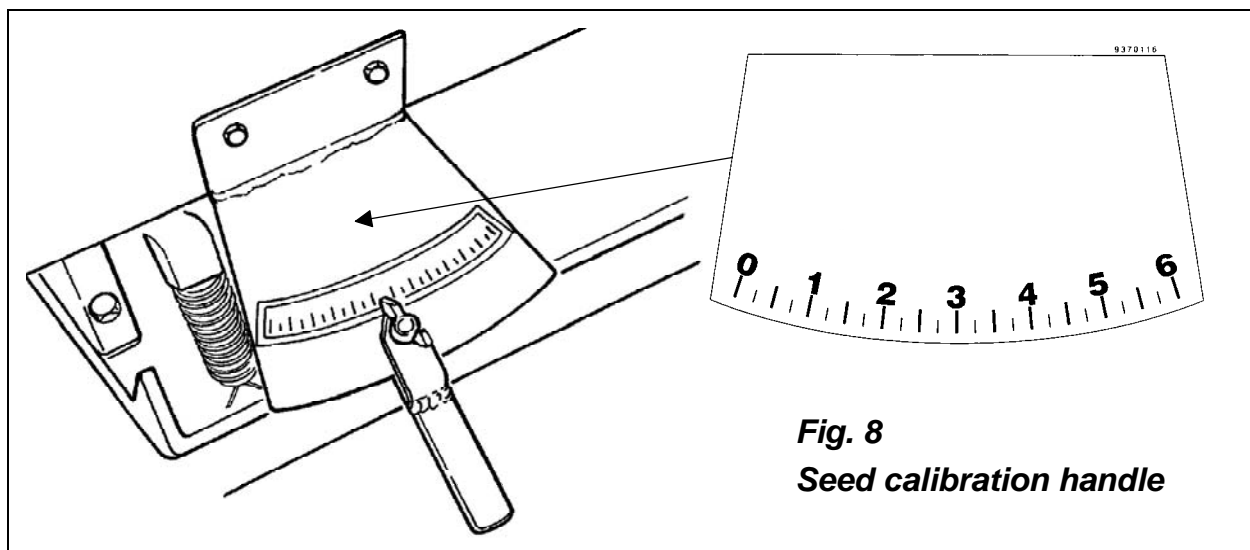

Fig. 8
rectangular slots to allow material passage. The **seed cups** mounted under the hopper, which are made entirely of non-corrosive material (nylon and fiberglass), contain an internal gear that rotates inside a housing. A **calibration handle** located on the rear left hand side of the hopper regulates how far to insert the gear inside the housing. The position of the handle, which has a scale from 0 to 6, determines the amount of seed distributed (**see fig. 8**). The seed cups are a force feed system driven by the roller.
The material is held inside the groove of the gear until the groove rotates to the opening at the bottom of the hopper. This rotation is driven by the roller as it moves along the ground. When the handle is in position "0" the gear is completely outside the seed cup and no seed is distributed, with the handle in position "6" the gear is totally inside the cup and distributes at its maximum potential (**see fig. 8**).
5. Move the calibration handle located in the rear of the hopper to a position between 1 and 6 (**see fig. 8**).